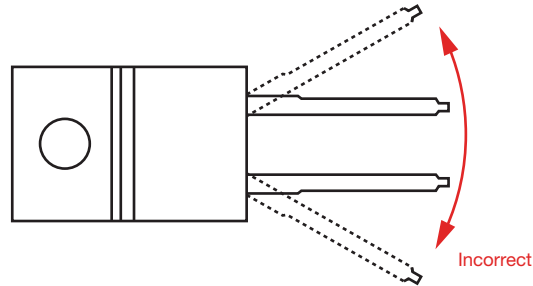

Fig. 6
5. Lateral bending of the terminal is not allowed (Fig. 6)